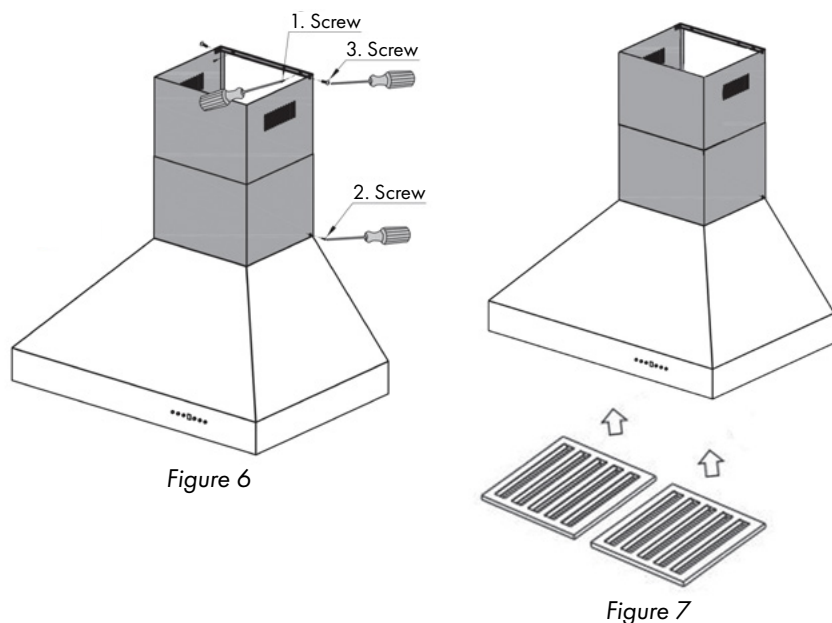

Figure 5
6. Make your electrical and ducting connections. Try and minimize the use of elbows. More elbows and longer runs create higher static pressure. The hood comes with a grounded three prong plug that can be plugged into a 15 amp circuit. The cord is 36" long. *Figure 5*